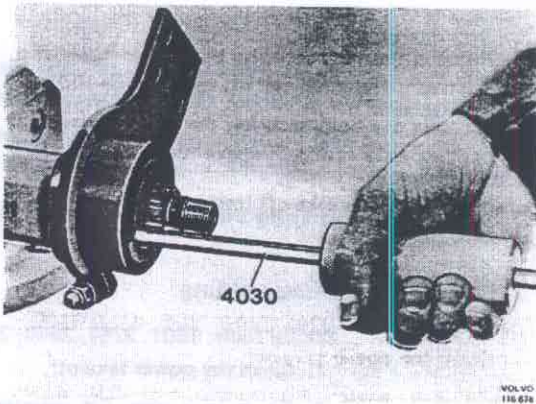

Fig 46-137 Removing the seal
4. Remove the sealing rings with 4030, Fig. 46-137.